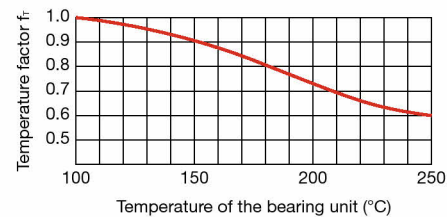

Fig. 1 Temperature factor (fT)
- fT** : Temperature factor (see Fig. 1)